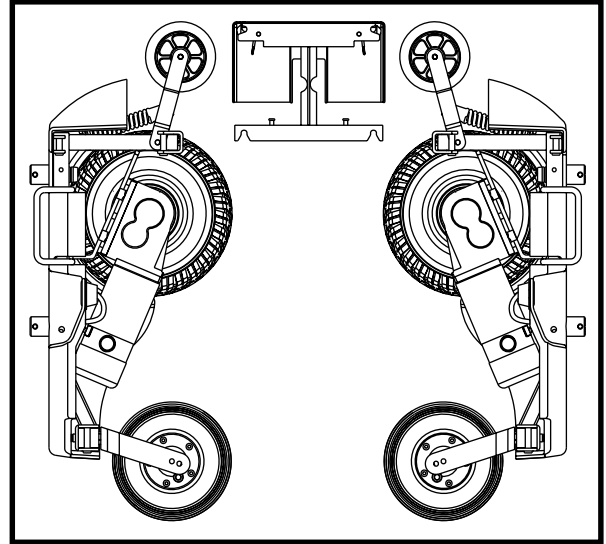

Figure 15. Frame Assembly Position
1. Place the three frame assemblies next to each other as shown in figure 15.